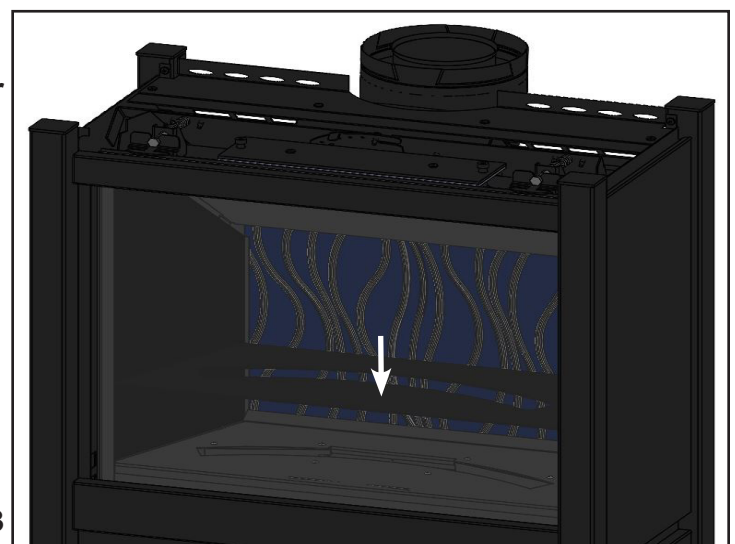

Fig. 13
- Carefully place the Floor Plate assembly back into position and then place the Floor Glass Panel on top. (**Fig. 13**) **Note: The smooth side of the floor glass panel should face up.**